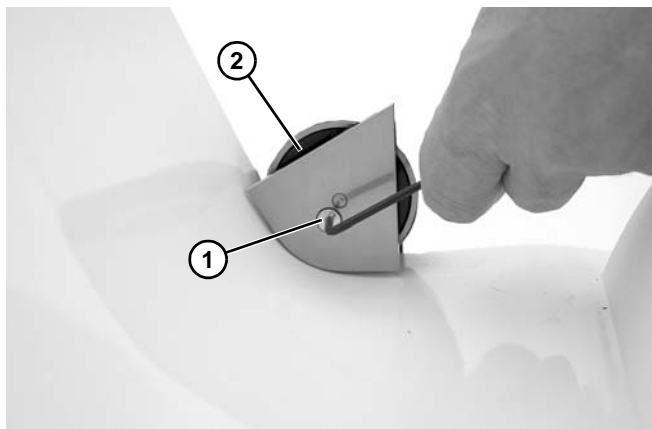

Figure 135
2. Remove screw (Figure 135, item 1) and worn roller bearing (Figure 135, item 2).
3. Replace worn bearing with new bearing, use screw (Figure 135, item 1) to attach new bearing.